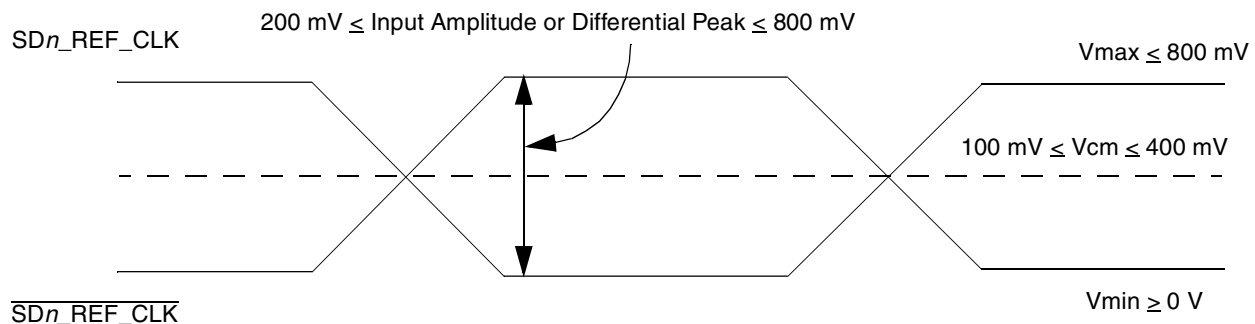

**Figure 58. Receiver of SerDes Reference Clocks**
Figure 58 shows a receiver reference diagram of the SerDes reference clocks.
- The  $\overline{SDn\_REF\_CLK}$  and  $SDn\_REF\_CLK$  are internally AC-coupled differential inputs as shown in Figure 58. Each differential clock input ( $\overline{SDn\_REF\_CLK}$  or  $SDn\_REF\_CLK$ ) has a 50-Ω termination to SGND (xcorevss) followed by on-chip AC-coupling.